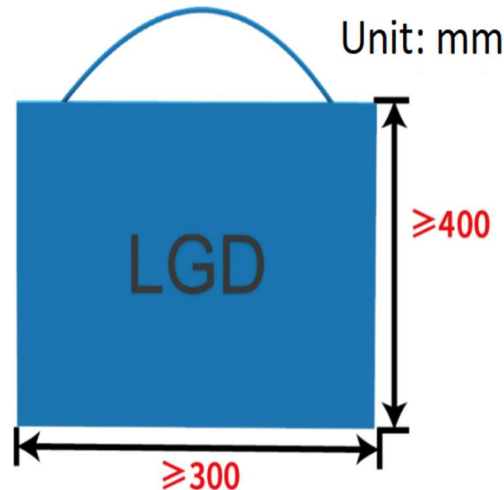

Fig 5.2-1. The Size of Flag
- The structure and shape of the flag should be referred to as the Fig5.2-1. It must be a regular-shaped flag; Shaped flags cannot be produced and used.